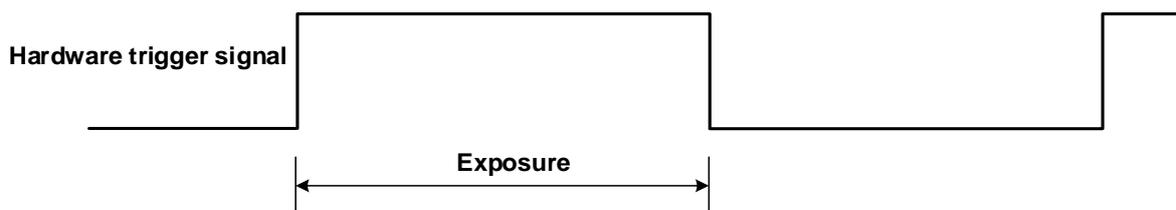

Figure 8-22 The sequence diagram in rising edge trigger of TriggerWidth exposure mode
- If rising edge triggering is enabled, exposure starts when the trigger signal rises and continue until the trigger signal falls, as shown in Figure 8-22